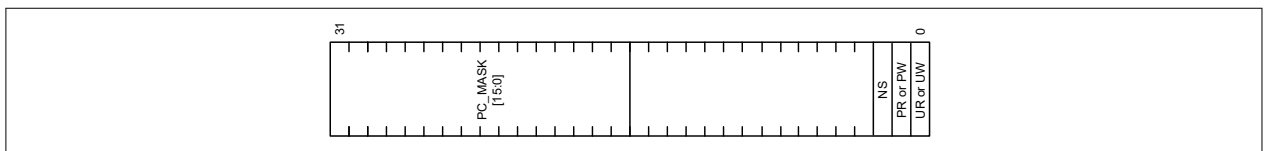

Figure 18 Composition of attribute elements
- **FWPUx_SL_ATT_[3:0], ERPUx_SL_ATT_[3:0], EWPUx_SL_ATT_[3:0]:** These elements set the attribute to access Flash memory or eFuse. Figure 18 shows the composition of each attribute setting element
- **PC_MASK:** Accesses with protection context (PC) are allowed, when the corresponding bit is set to '1'. XMC5000 has eight PCs. Therefore, MC_MASK[15:8] is invalid
- **FWPUx_MS_ATT_[3:0], ERPUx_MS_ATT_[3:0], EWPUx_MS_ATT_[3:0]:** These elements set the attribute to access slave elements. Composition of each attribute setting element is same as Figure 18